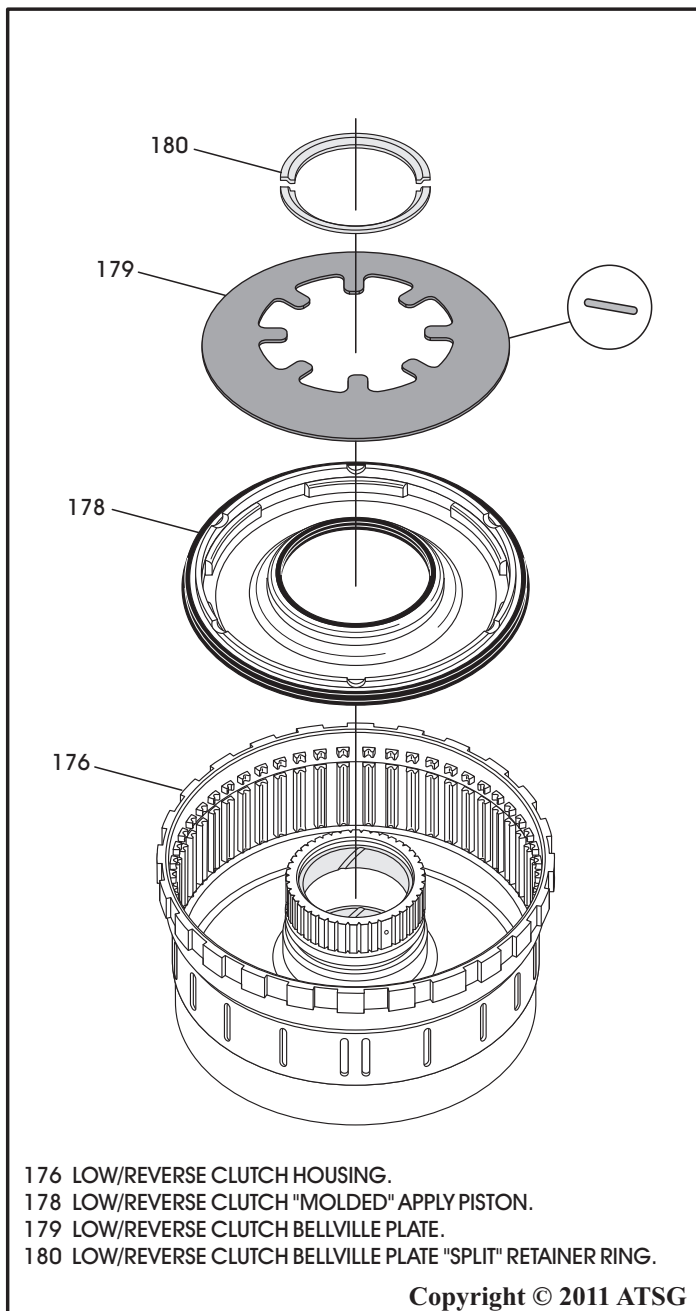

Figure 73
16. Set the low/reverse clutch housing on a flat work surface, as shown in Figure 73.
18. Install low/reverse clutch piston into low/reverse clutch housing, as shown in Figure 73.
19. Install the bellville type return spring on top of the installed piston in the direction that is shown in Figure 73.
20. Compress bellville spring and install the "split" retainer into the groove of housing, as shown in Figure 73.